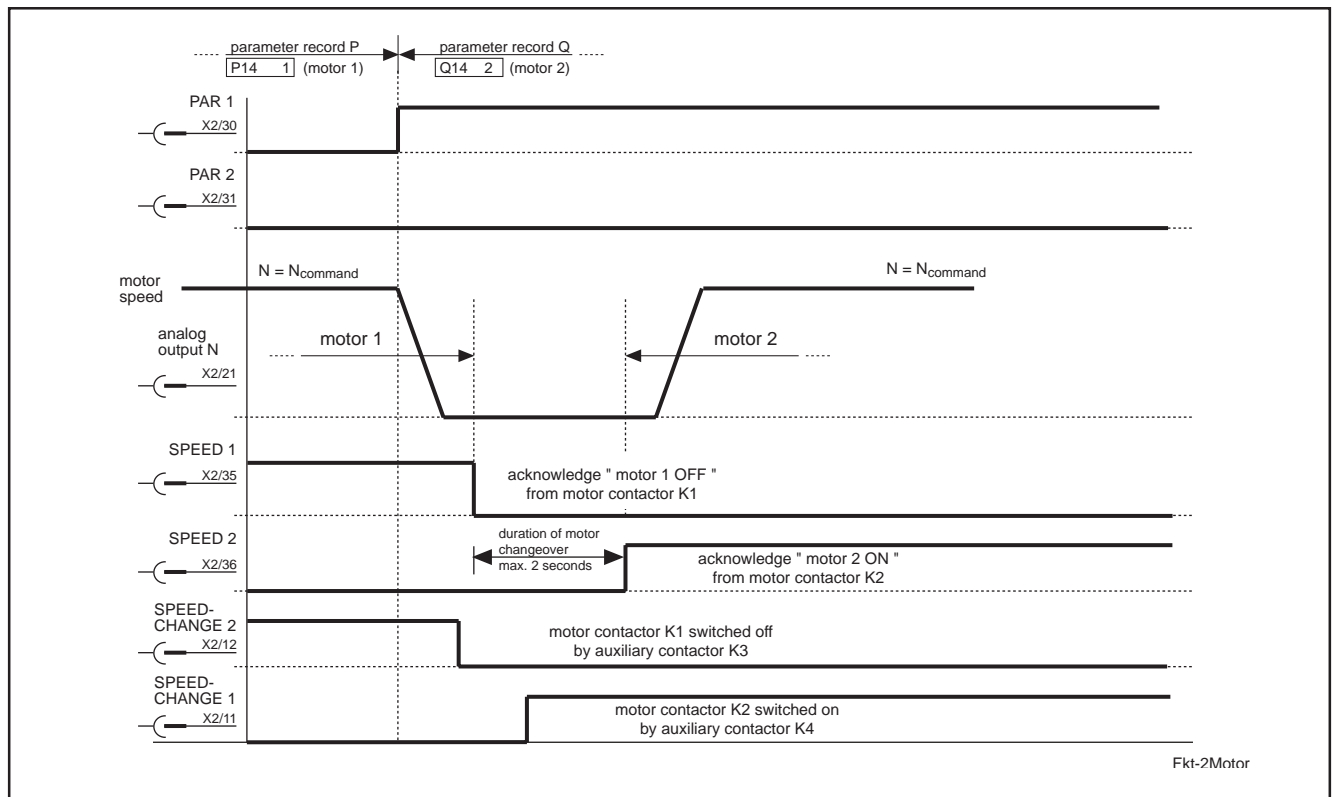

Figure 83: Functional sequence of two-motor changeover
- two auxiliary d.c. contactors and two motor contactors (see Figure 83)